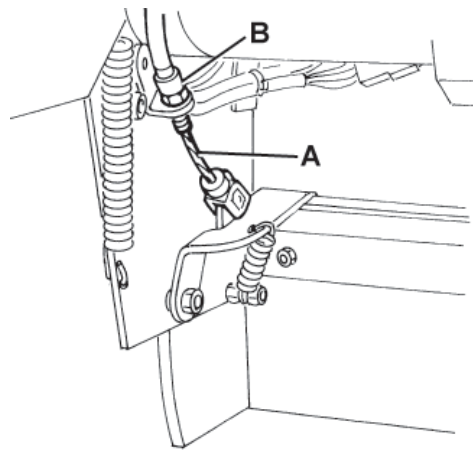

Figure 23
11. Press the front skirt lifting pedal (75) completely, and check that the front skirt lifts 5 cm approximately. Release the pedal and check that the skirt does not remain in an intermediate position but returns to its initial position. If necessary, adjust the skirt lifting cable (A, Fig. 23) with the adjuster (B) on the left front side of the skirt (for the front skirt control cable replacement, see the Service Manual).